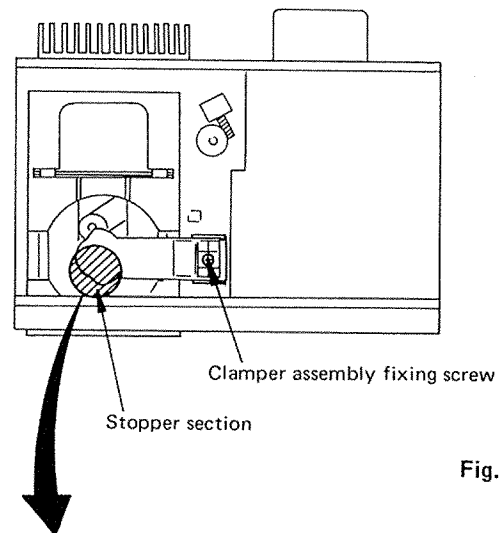

Fig. 21
5. Adjustment of the Stopper. (Fig. 21, 22)